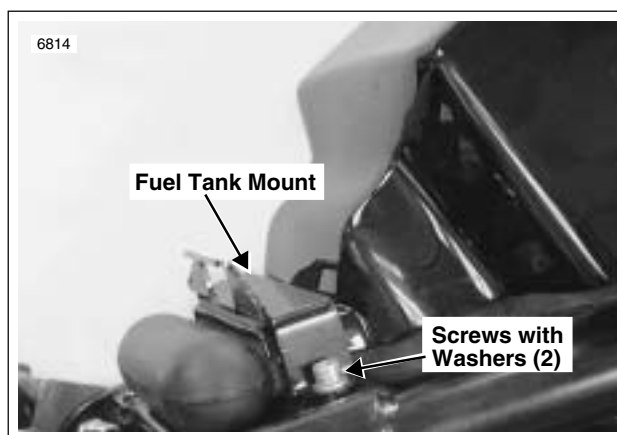

Figure 4-88. Fuel Tank Mount
2. See Figure 4-88. Remove seat, fuel tank mount and fuel tank cover. See 2.40 SEAT.